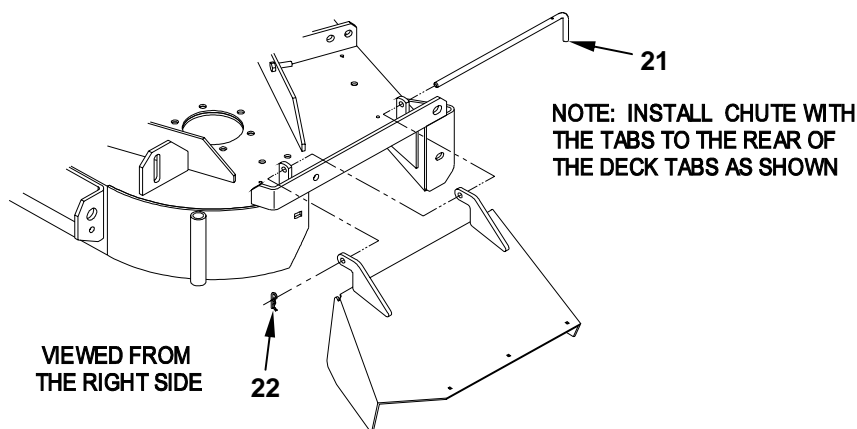

FIGURE 11
- 4.3.6. Install the discharge chute using the chute pivot pin and hairpin (See Figure 11).